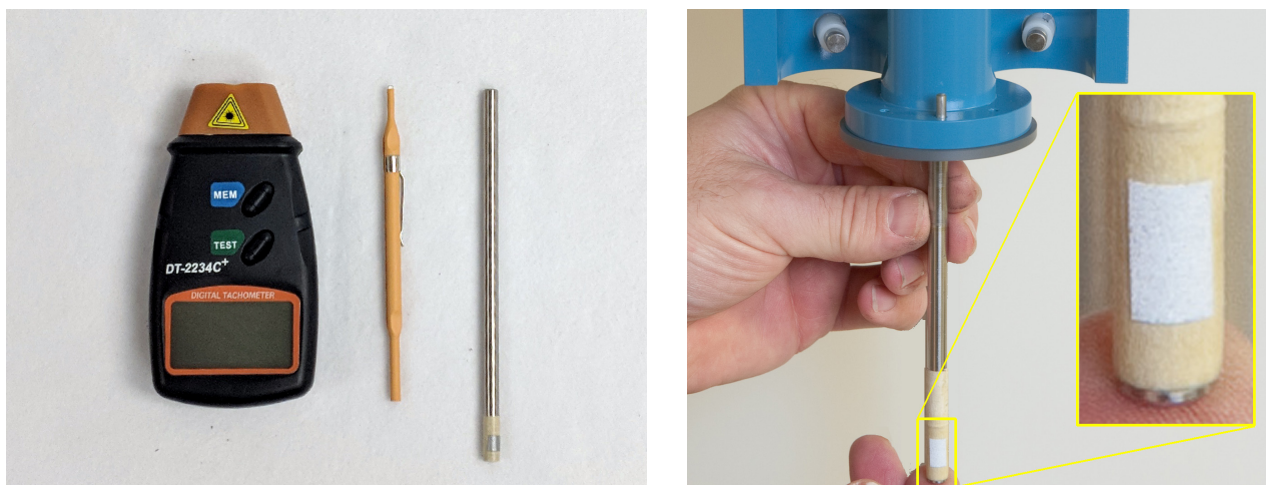

Figure 2-3. MSR Calibration Kit Tools (left) and Installation of Calibration Shaft (right)
4. While the power is switched off, install the tachometer target into the motor coupling on the motor unit. This target should be a metal rod with the appropriate diameter (1/4" or 6.35 mm), which is included with the MSR Rotation Rate Calibration Kit (AKMSRCAL). Many tachometers require that a piece of reflective tape be attached to the end of the shaft, which has already been done to the calibration shaft included with the kit (see Figure 2-3).